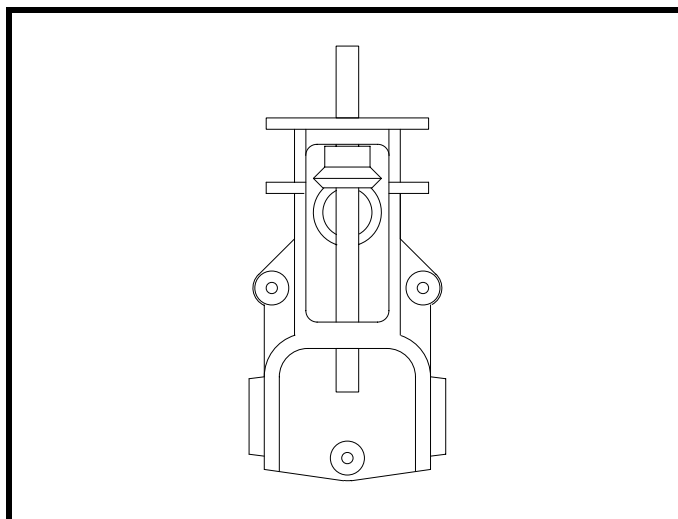

Figure 34
- ❑ Install P/N 520-6 vertical drive shaft and P/N 520-7 miter gear in the housing as shown in Figure 34. Line up hole in miter gear with the hole in the shaft and drill through with a 11/64"Ø drill, then ream with a 3/16"Ø reamer. Use a drill press, or the drill will "wander". Install the roll pin.